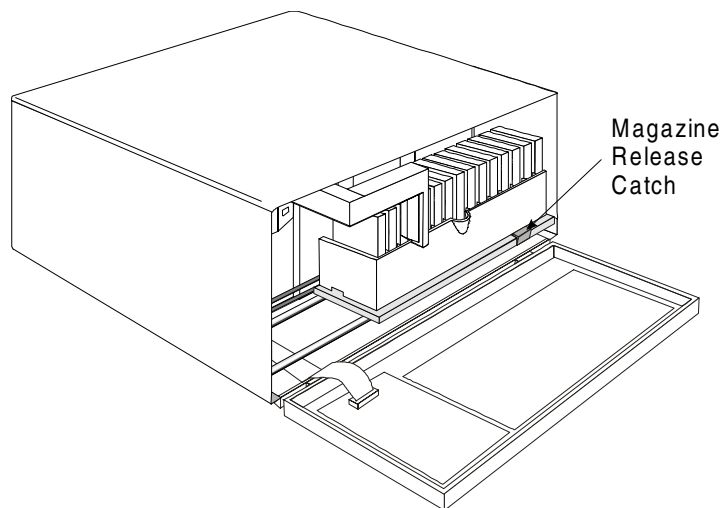

Figure 13. The Magazine Release
- ❑ Press **ALT** and then **UNLOAD** and wait until the unload procedure is finished. (If the carriage is not in the unload position, it will move to the right. In addition, the grippers on the pick arm will close.) Press the Magazine Release on the carriage. See Figure 13. The magazine will release from the holding pins.